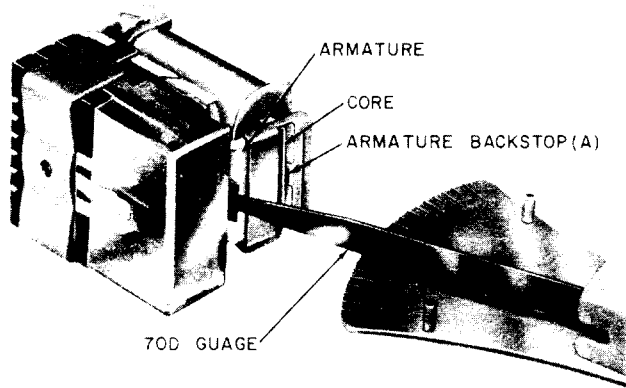
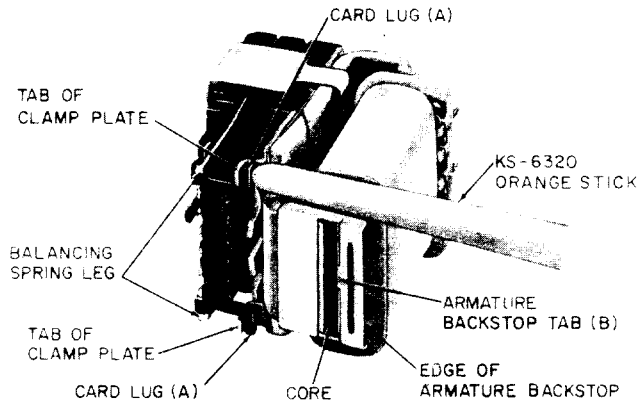

Fig. 4—Measuring Armature Back Tension
Fig. 5—Checking Balancing Spring
2.05 Armature Back Tension Fig. 4(A):
Use the 70D gauge, as shown in Fig. 4, applied at the center of the armature in front of the clamp plate shown in Fig. 5. Care shall be taken that the reed of the gauge does not touch the cover.
2.06 Balancing Spring Tension [Fig. 5(A) and (B)]: With the relay in the unoperated position, the combined tension of the balancing spring legs shall be sufficient to hold the card lugs against the outer tabs of the clamp plate and the armature backstop against the core.
To check this requirement, electrically operate and release the relay. Using the KS-6320 orange stick, apply pressure to the edge of the armature backstop toward the core (see Fig. 5) and then alternately to each card lug toward its associated clamp plate tab. The requirement is met if there is no observable movement of the armature backstop tab with respect